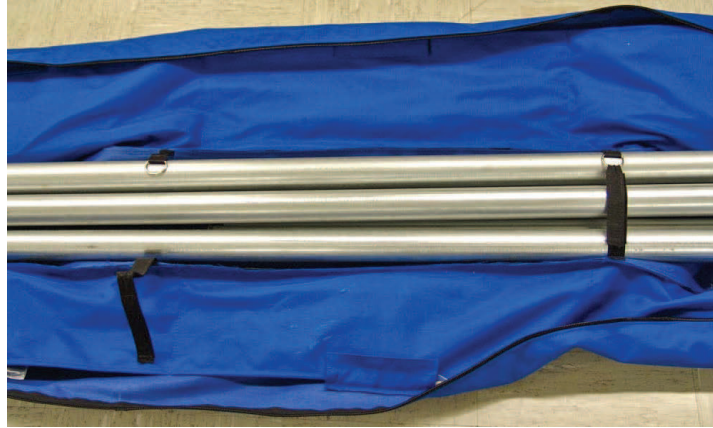

FIGURE 3-2. CM375 in opened tote
Step 1: Remove mast sections and other bundled hardware from tote; unzip and loosen straps (see FIGURE 3-2).